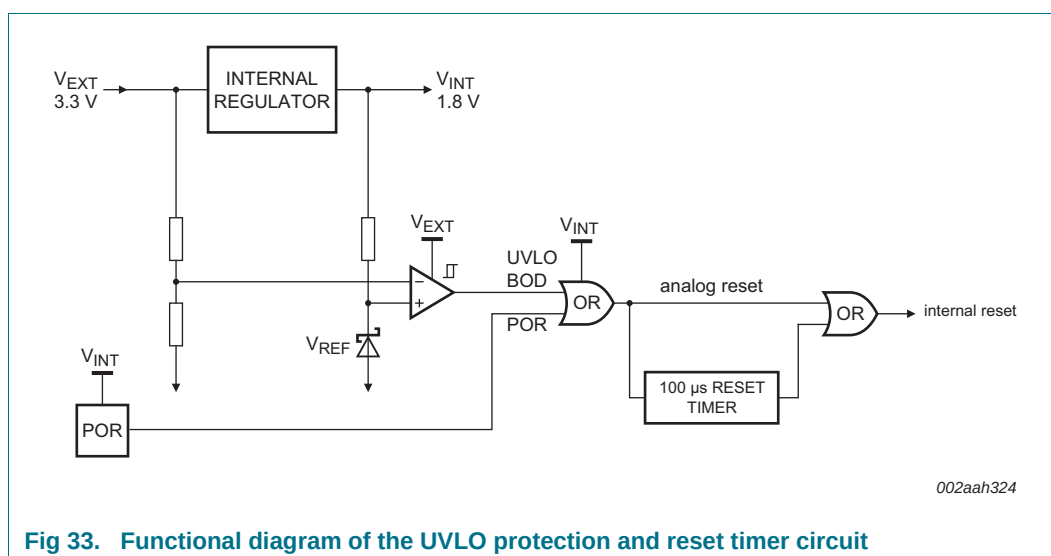

Fig 33. Functional diagram of the UVLO protection and reset timer circuit
• Section 10.1 abbreviated for clarity. • UVLO description including description of cold start-up behavior moved to the LPC11Axx user manual. • Table "Slew rate for the internal regulator power-up from ground" removed. This specification is included in the cold start-up description in the LPC11Axx user manual. • Details regarding boundary scan added to Section 7.24 "Emulation and debugging". • Figure 33 "Functional diagram of the UVLO protection and reset timer circuit" updated to include the reset timer circuit. • Section 12.8 "Guidelines for selecting a power supply filter for UVLO protection" added. • Section 7.23.2 updated to include internal reset timer. • Parameter t_{PD} corrected in Table 24. • Parameter $E_{V(O)}$ corrected in Table 26.